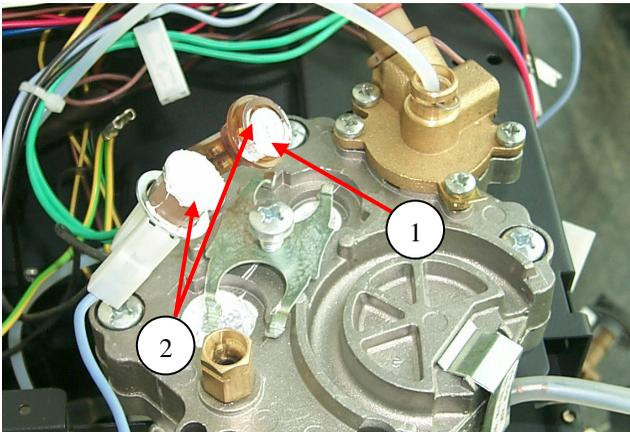

Fig. 24
- d) **Attention:** The metal cylinder (Fig. 24/1) of the thermal sensor (KTY) must be transferred from the old sensor to the new sensor when the sensor is replaced!.
- e) When re-assembling ensure that sufficient heat conductive paste is used (Fig. 24/2).